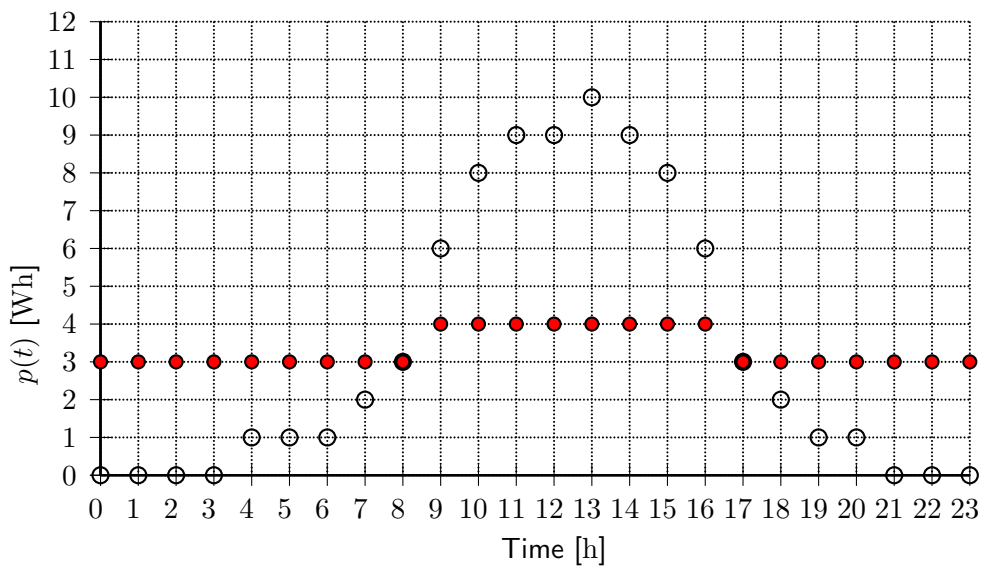

Figure 5: Application Control, Task (b)
- (b) (8 points) Suppose now that $B = 33$ Wh. The harvested energy function $p(t)$ is given in Figure 5. Determine an optimal energy usage function $u^*(t)$ that maximizes the utility and never leads to failure state. Draw $u^*(t)$ in Fig. 5.
- During the time interval with surplus energy ($t \in [9, 16]$) we can increase the use function to $u(t) = 4$ without violating any feasibility constraint and still achieving a full battery at time 17. Red dots in Fig. 5 represent $u^*(t)$.